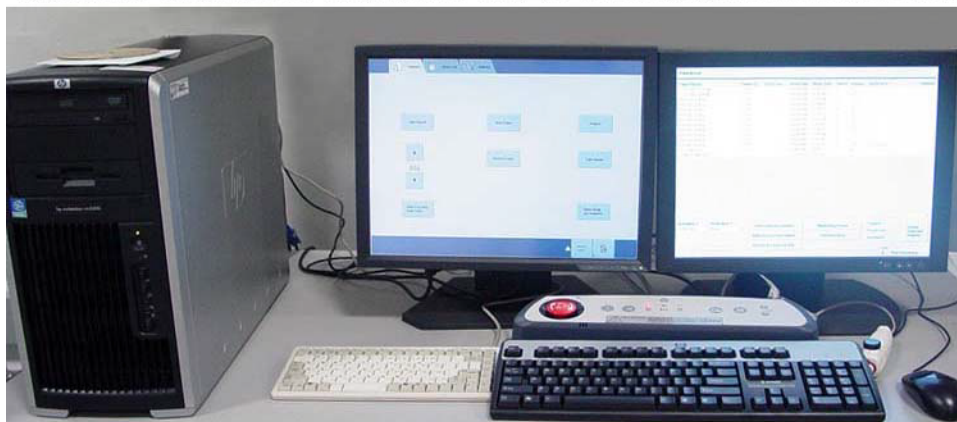

Figure 3-1 Operator Console
- Operator Console - Figure 3-1